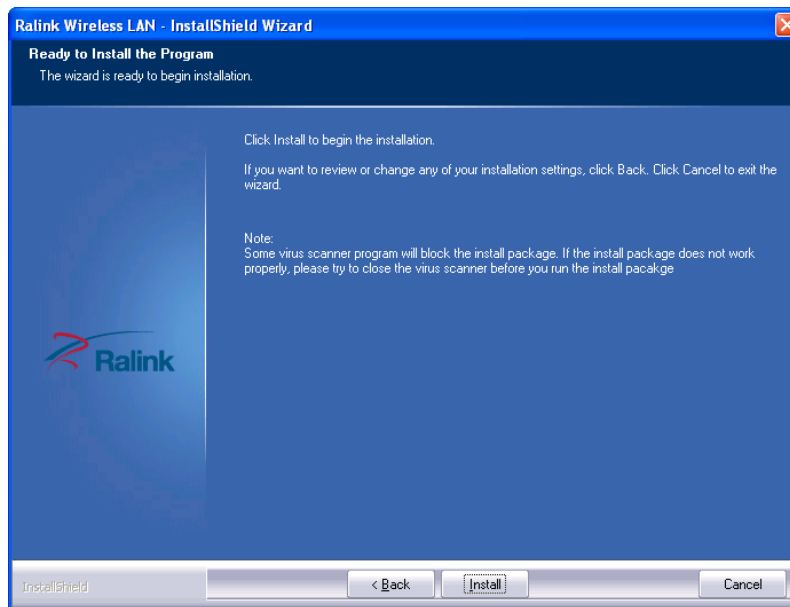

Figure 5-35: Ready to Install the Program
Step 9: The **Ready to Install the Program** screen in Figure 5-35 appears.